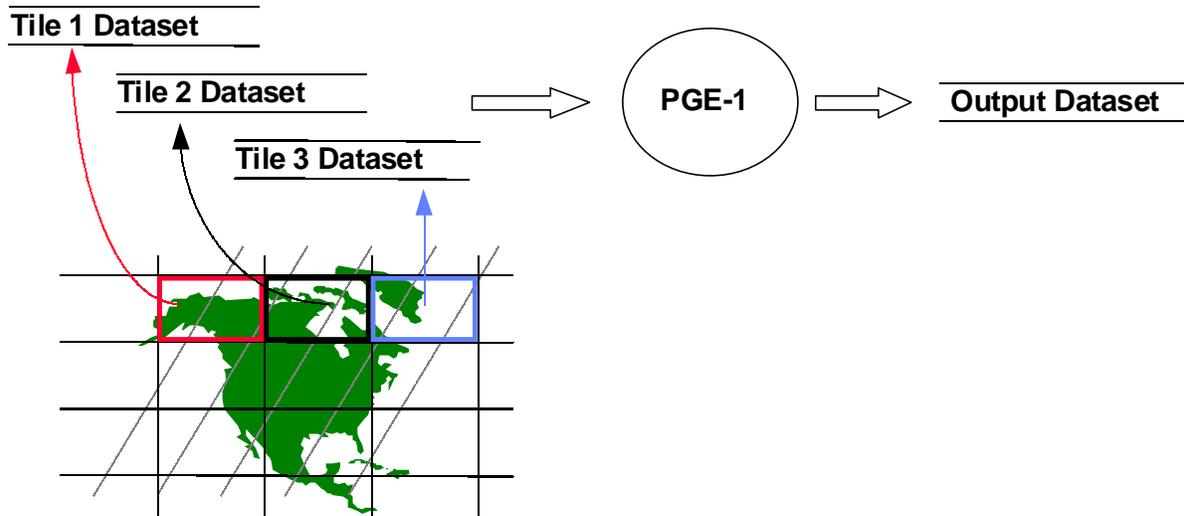

Figure 8. Example of Tiling
An example of how the Tiling Production Rule is implemented is shown in Figure 8.
- The Planning Subsystem (PLS) uses the tile definitions to query the Data Server Subsystem (DSS) to identify all input data granules covering the specified tile (i.e., Tile 2 in Figure 8).